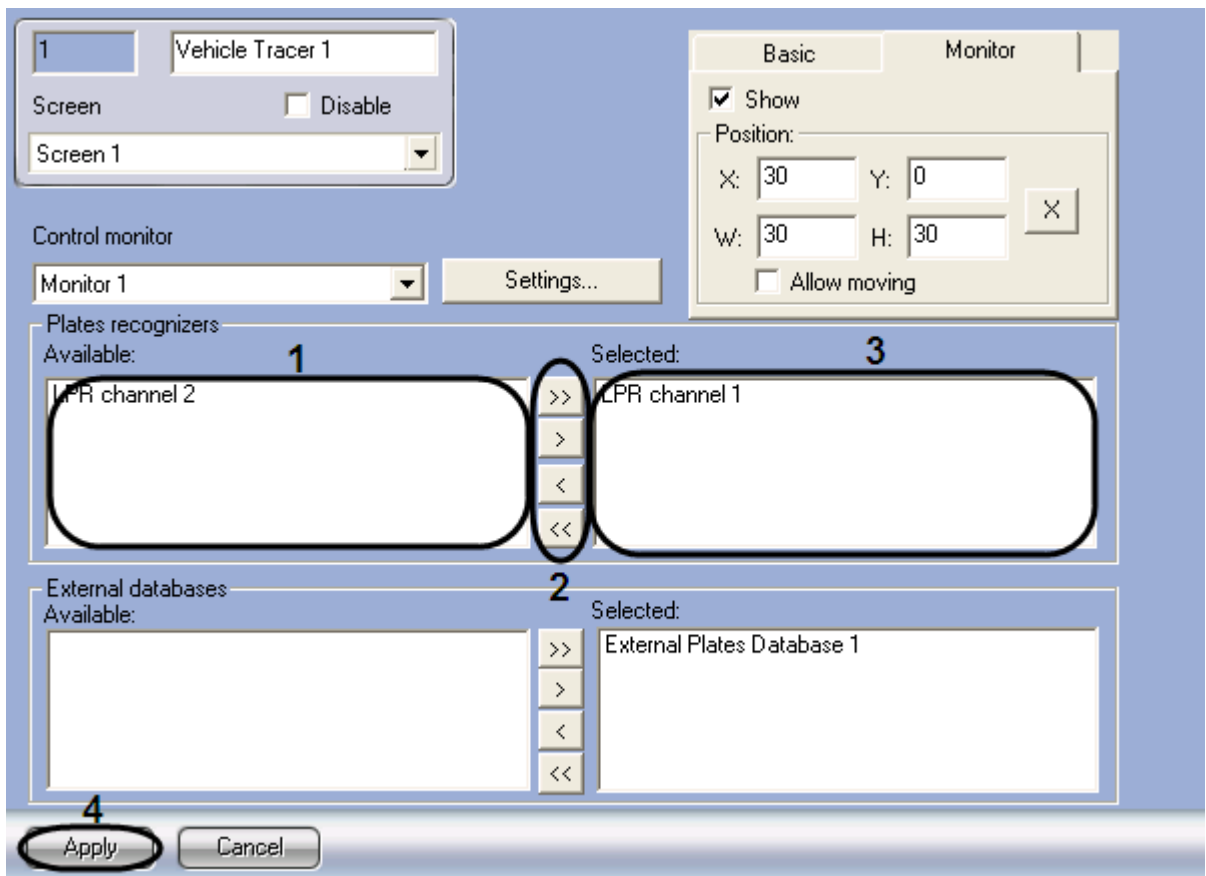

Fig. 7.8-5 LP recognizers servers selection
1. Go to the Vehicle tracer settings panel (Fig. 7.8-5).
2. Select the required LP recognition servers from the list Available of the Plates recognizers group (Fig. 7.8-5, 1).
3. Move the selected LP recognizers servers to the list Selected of the Plates recognizers group, clicking the « > » button (or « >> » button for moving all the LP recognizers servers from the list) (Fig. 7.8-5, 2-3).
*Note.* Buttons « < » and « << » are designed for handling the actions, i.e. for moving the selected or all the LP recognizers servers from the Selected list to the Available list (Fig. 7.8-5, 2).
4. Click Apply to save the applied changes (Fig. 7.8-5, 4).